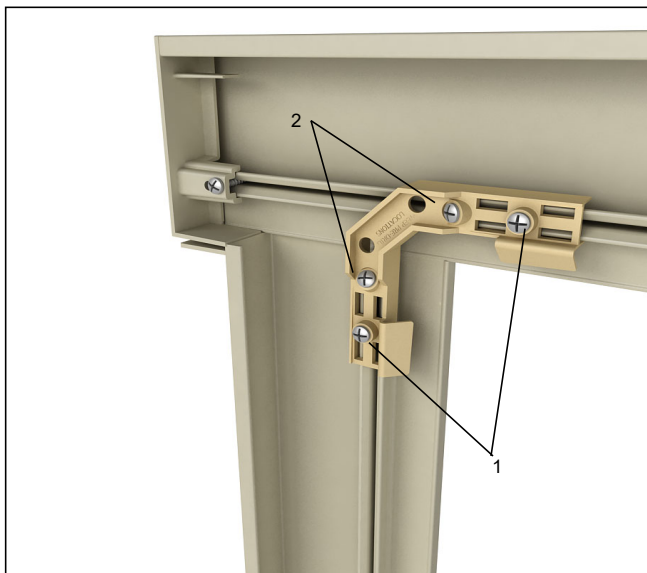

Figure 46
4. Fasten the corner key with included screws. First apply the outside 90° screws (1) followed by the two inside angled screws (2). Fasten until joints are tight. Over tightening may cause screw channel to strip out. See *figure 46*.